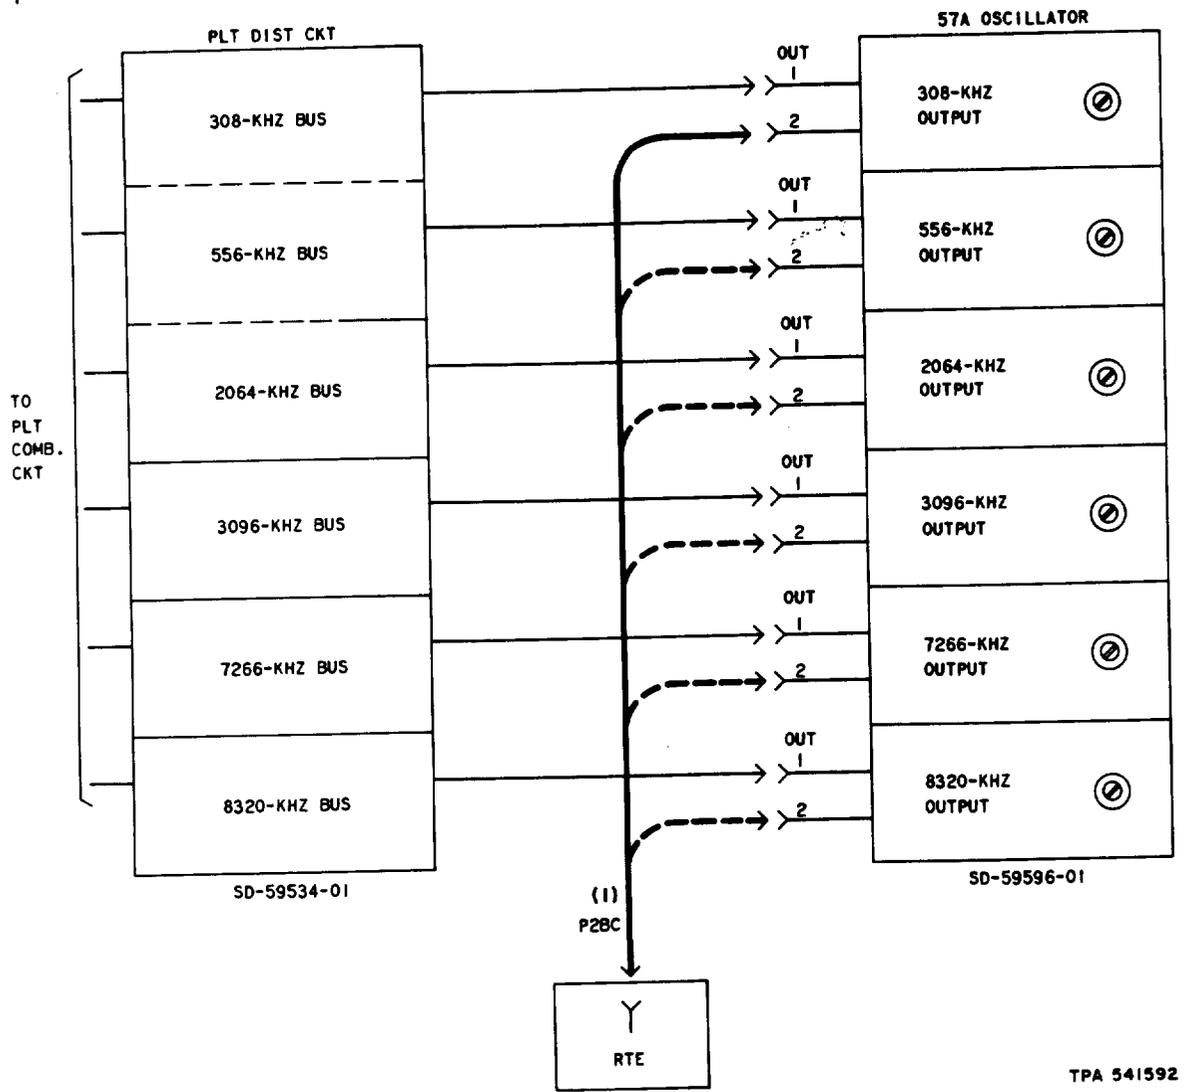

Fig. 1—Emergency Pilot Supply Using 57A Oscillator—Connecting and Measuring Patches
1	Calibrate the receiving test equipment (RTE) for a 75-ohm terminated measurement of -1.0 dBm at the frequency being measured (Fig. 1).
2	Make patch (1), Fig. 1 for the frequency being measured.
6	Connect the No. 1 outputs of the 57A oscillator to the pilot distributing panel per SD-59639-01 (Fig. 1).